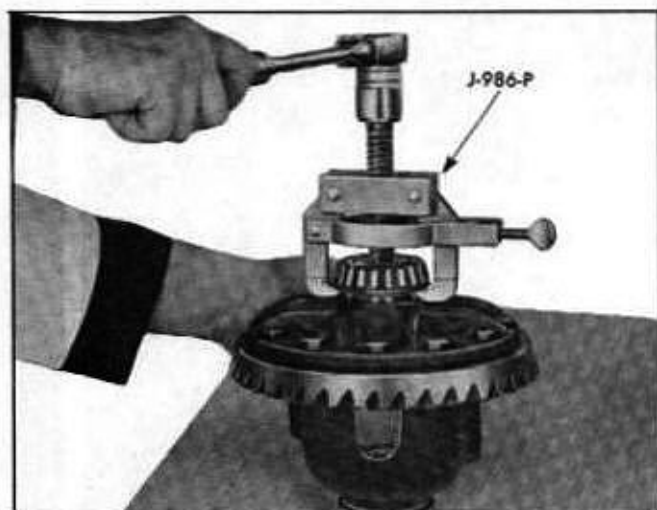

Fig. 4-41 Removing Side Bearing With Puller J-986
a. Remove side bearing from case using Remover J-986-P (Fig. 4-41). Hooks of puller must be placed in recesses in differential case.
4. Remove side bearings using Puller J-986-P (Fig. 4-41). **CAUTION:** Be sure end of puller arms are in recesses in sides of hub and fully against inner race of bearing.